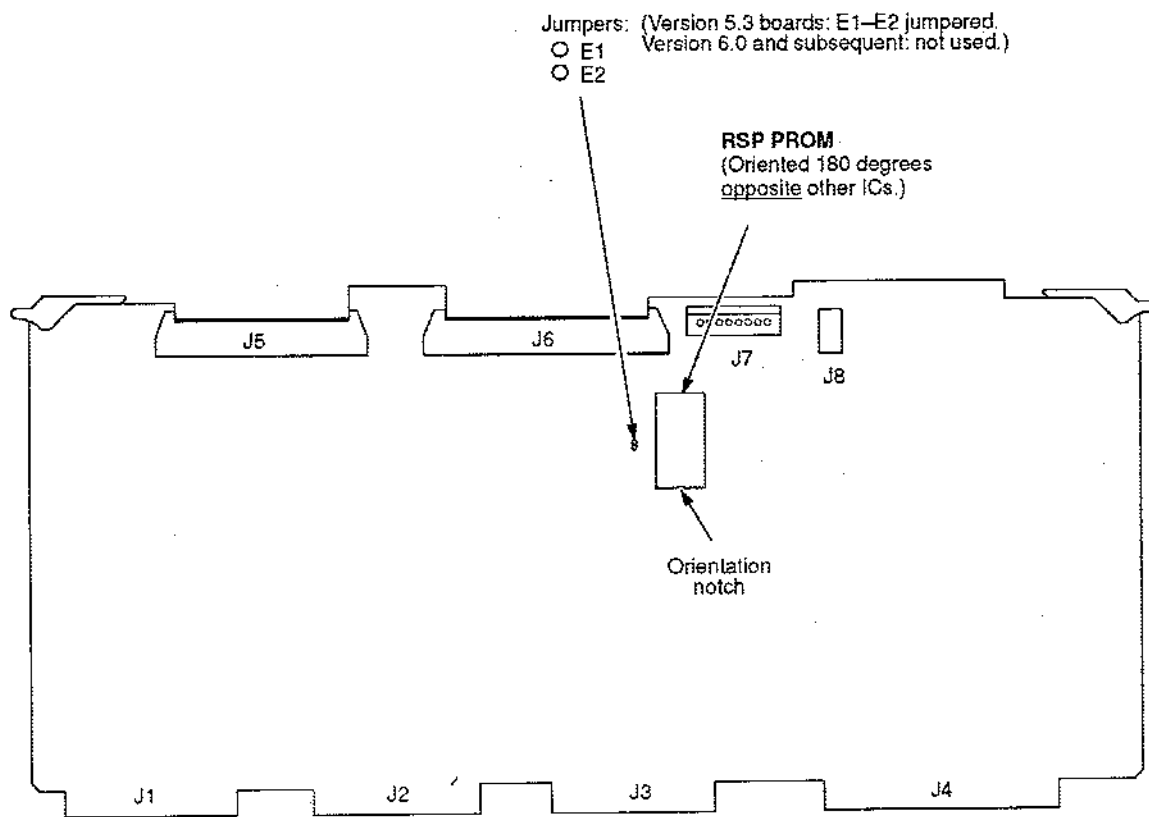

Figure 6-5. PROMs and Chips on the Mechanism Driver
3. Using a chip puller, remove the defective chip(s). Locations are shown in Figure 6-5, page 6-49.
1. Using a chip installation tool, install chip(s). Locations are shown in Figure 6-5, page 6-49.